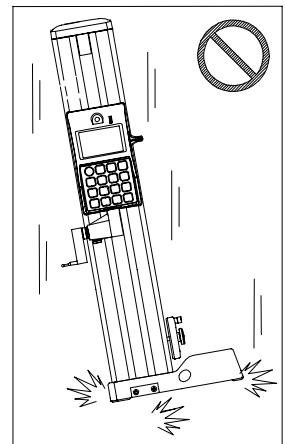

Fig.4
- Do not apply excessive force to the gage or drop it. Also, do not disassemble the gage except to remove the battery cover when replacing the batteries (Fig.4).